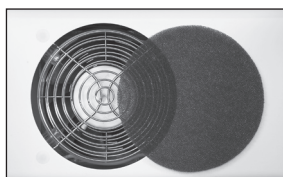

Fig. 7
1. Switch OFF power to the ionizer. The foam filters will then loosen for removal (Fig. 7).